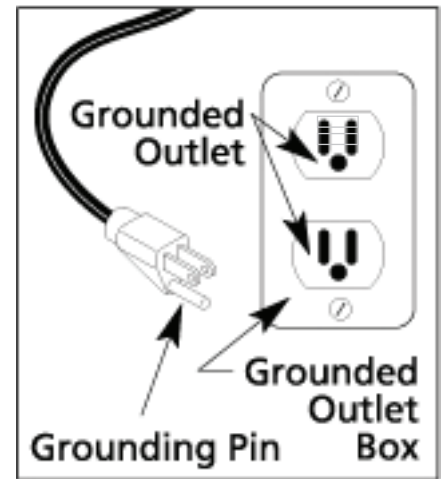

Fig. 1
- Do not use the equipment if power cord is damaged. In the event of damage, discontinue use immediately. If the supplied cord is damaged, it must be replaced by an authorized Norvell technician. ***Please call Norvell Technical Support (888) 829-2831 or (615) 529-1250 for assistance.***
- Always plug the power cord into a properly configured grounded outlet. *Fig. 1*